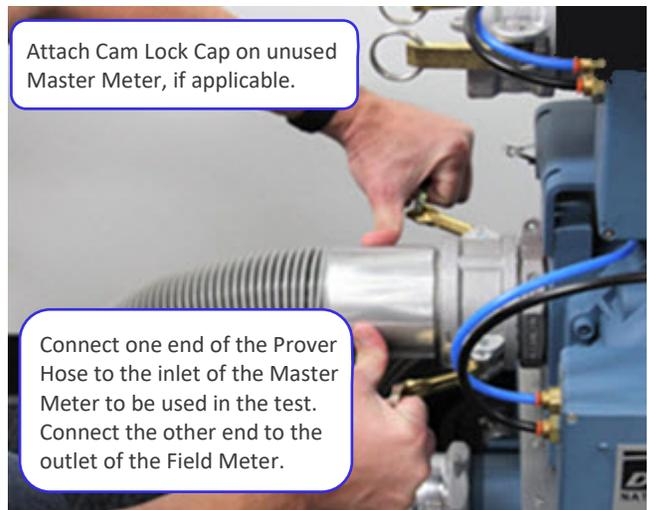

Figure 95: Connect Prover Hose to Prover inlet
15. To continue meter testing with the Prover, move the Prover Hose from the exhaust/outlet male quick-disconnect coupling on the Prover to the inlet quick-disconnect coupling of the appropriate Master Meter (Figure 95).